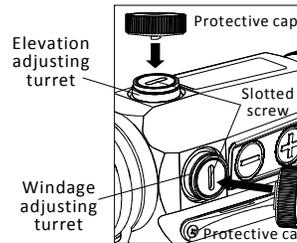

Fig 5
1. On top of sight is the elevation adjusting turret, windage adjusting turret is on the right side (see Fig5). The sight has been factory adjusted for approximate zero.
2. The built in screw driver tool on the protective cap can be used for zeroing adjustment (see Fig5). See label inside cap.